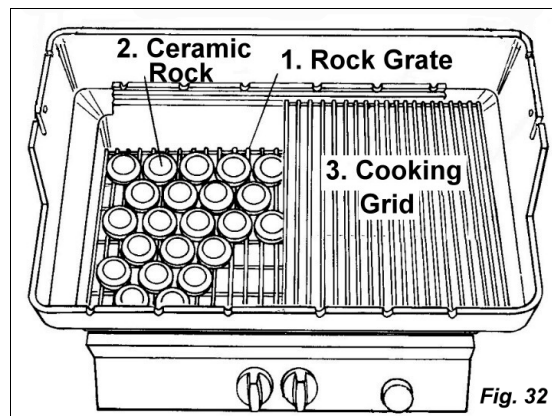

Fig. 32
Step 6: Grates, Briquettes and Cooking Grids (Fig. 32)
(See JNR/ WNK instructions on page 18, Fig. 32)